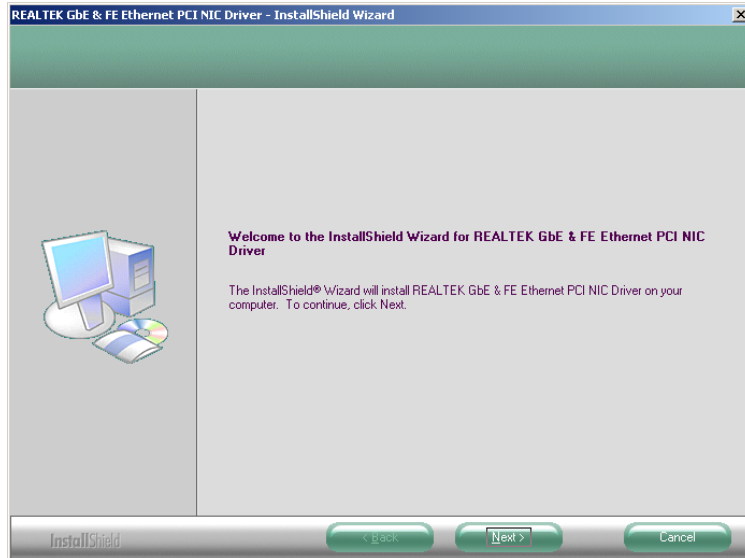

Figure 7-33: RTL8110SC InstallShield Wizard Welcome Screen
Step 11: Once initialized, the **InstallShield Wizard** welcome screen appears (Figure 7-33).